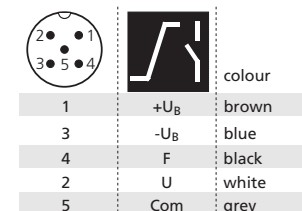

Fig. 1: Pin assignment with view onto sensor plug and colour coding of the microsonic connection cables.
- Connect a connection cable to the M12 device plug, see fig. 1.